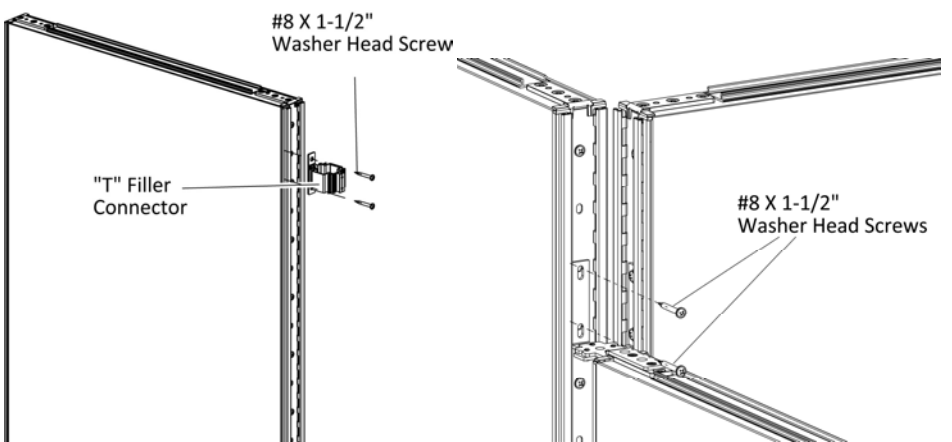

Figure 7
- 11.** Drive two #8 X 1-1/2" Washer Head Screws through the holes in intermediate panel connector into the taller panel, (Figure 7).